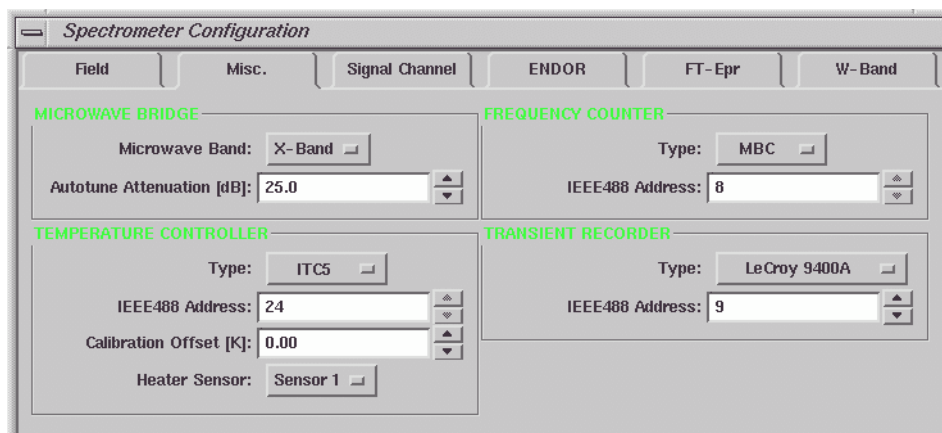

Figure 12-8 Configuring the ITC 503 temperature controller.
5. **Select a sensor.** In the Heater Sensor section select the temperature sensor you are using on the ITC 503 controller to control the sample temperature. Unless you have multiple helium cryostats in your lab, you usually should select **Sensor 1**. Click **Apply**. If you plan on using the temperature controller in the future, click **Save**. Then click **Close** to close the dialog box. (See Figure 12-8.)